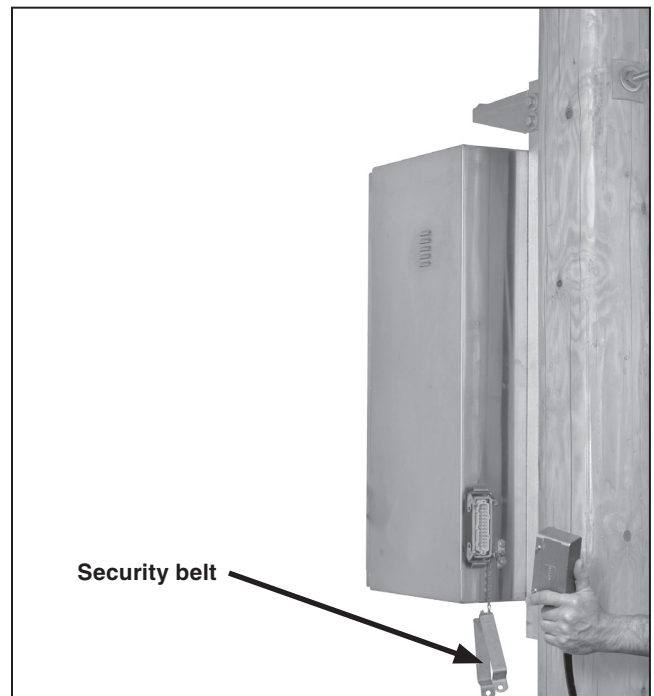

Figure 24. Securing the connector at the control unit.
STEP 22. A stainless steel security belt is included with the control unit for padlocking the multi-pin connector at the control unit. See Figure 38. Place the security belt around the panel-mount-style connector between the connector clips and the enclosure, and insert a padlock (not furnished) through the holes provided. See Figure 24.